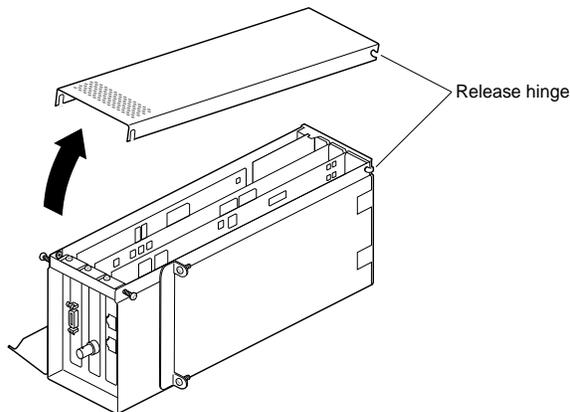

Figure 4-12 Opening and Removing the PCI Module Door
3. Pull the PCI module door up and off, as shown in Figure 4-12.